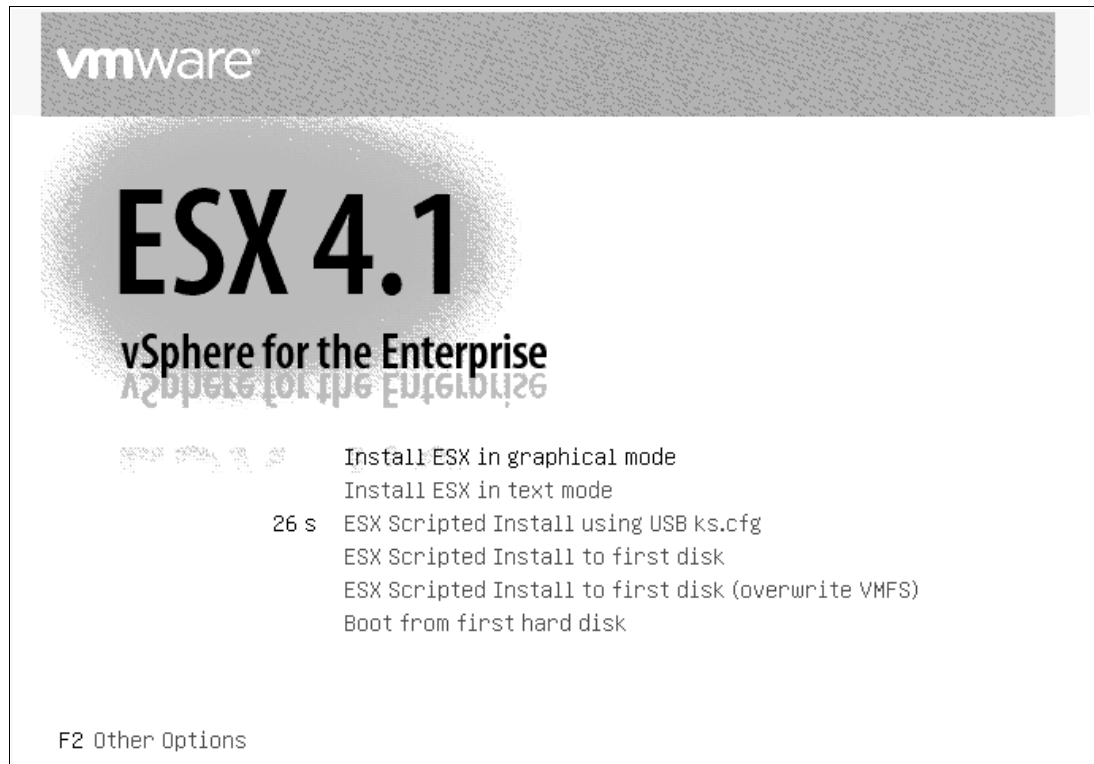

Figure 22-12 ESX Install initial panel
1. On the initial panel, select Install ESX in graphical mode as shown in Figure 22-12.